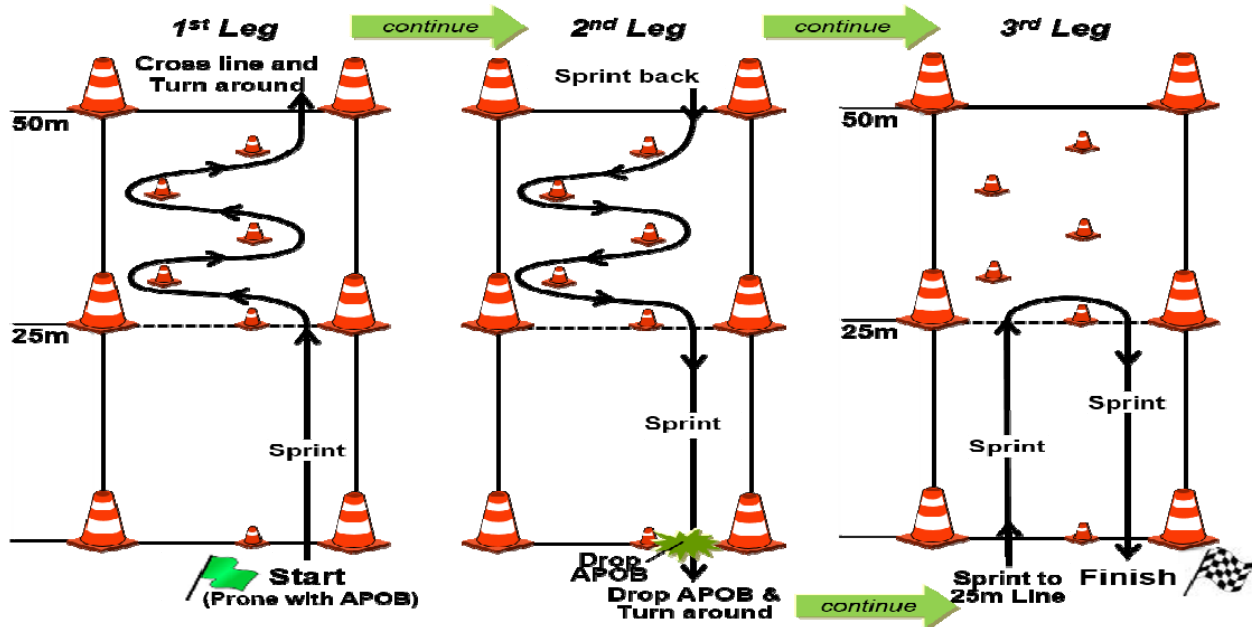

Figure F-1 150 Meter APOBS Individual Movement
(1) Fighting Load. See NAVMC 3500.44_ (Infantry T&R Manual) Appendix F, Figure F-1, for the Fighting Load gear list. This load will be worn/carried by MOSs listed within paragraph 3.a. when executing the following events:
(1) Description. The 1302 Conduct mobility operations in an Improvised Explosive Device (IED) environment and 1371 Breach explosive obstacles/hazards events, as depicted in Figure F-1, assesses the Combat Engineer's ability to run/rush 150 meters to employ an APOBS in support of a deliberate attack.
(4) Required Equipment. (3) Inert APOB packs, (32) Large Cones & (20) small cones per course (recommend two courses), (5) stop watches, (2) clip boards, (1) distance measuring wheel
(a) Figure F-1 is read left to right, starting at the green flag, and depicts 3 legs of the course. The entire event is conducted on a single lane of cones.